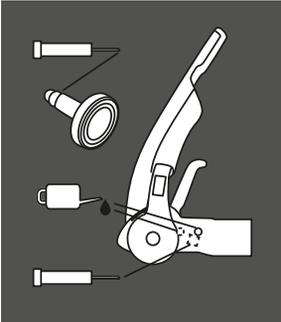

Figure 21
- Areas may only be covered with a thin film of grease (see Fig 21).